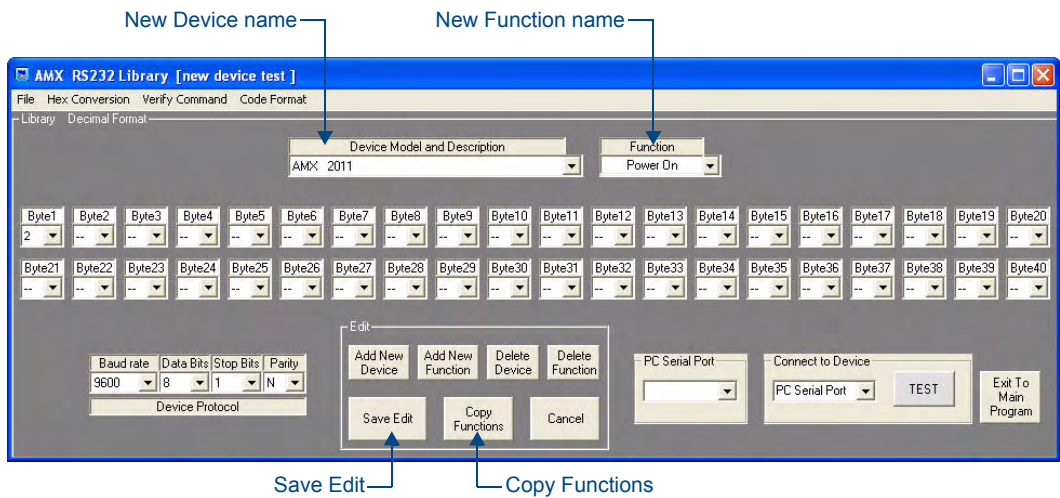
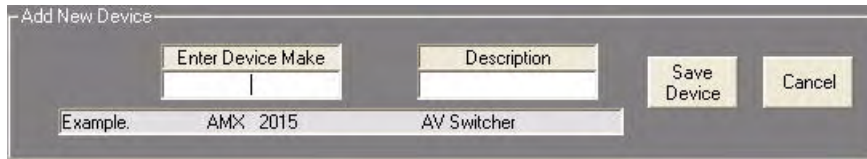

FIG. 36 AMX RS232 Library dialog (for a new device)
FIG. 37 AMX RS232 Library dialog - Add New Device window
2. Enter the *Device Make* and *Description*, then click **Save Device**. This opens a new *AMX RS232 Libraries* dialog for the new device (FIG. 36).
1. Select the device to copy from then click on **Copy Functions** (in the *Edit* options - see FIG. 36). This invokes the *Add New Device* window (FIG. 37).